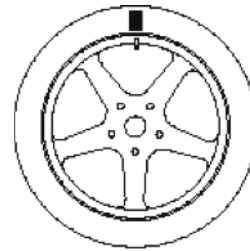

Fig. F5.5 "Run the launch" message
4. Press [P4]. The message seen in figure F5.5 will be displayed